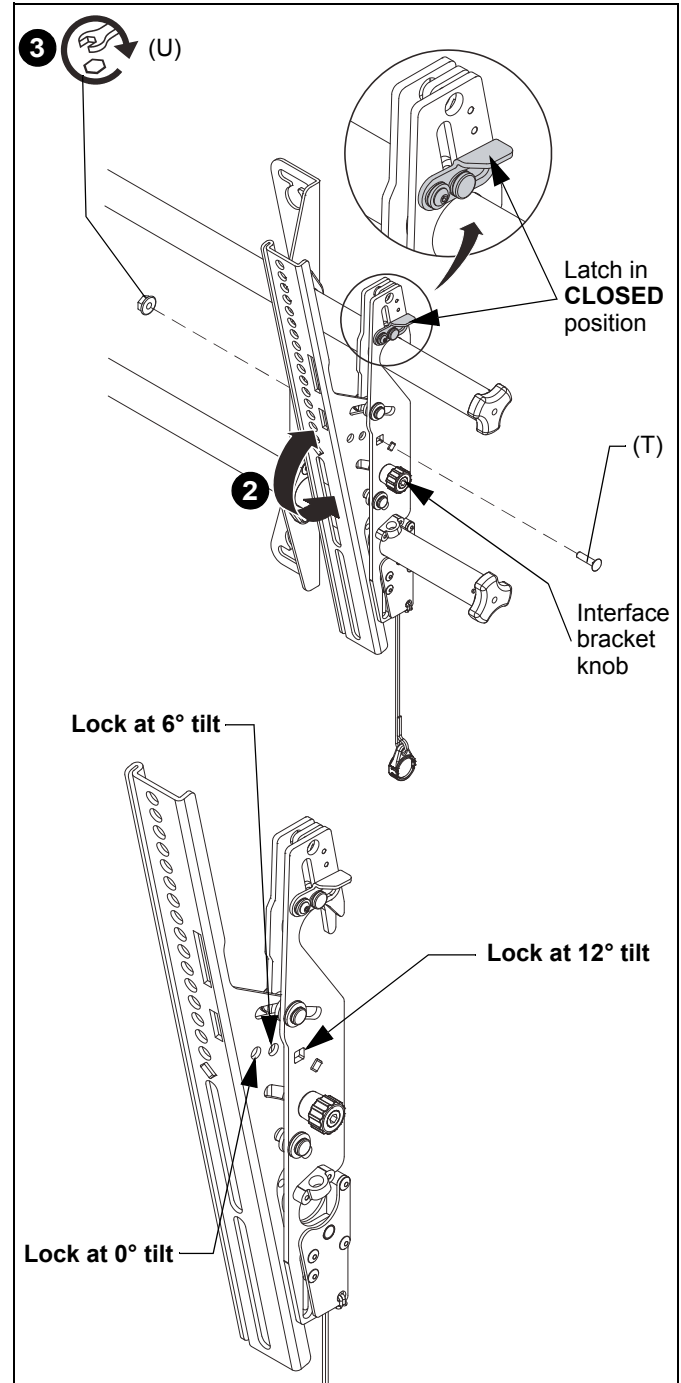

Figure 11
3. **(MTA1U / LTA1U only)** Move latch on top of interface brackets to CLOSED position. (See Figure 11)
2. Adjust tilt as required. (See Figure 11)
3. The tilt may be locked at 0° , 6° or 12° using one $1/4$ -20 x 1" round head carriage bolt (T) and one $1/4$ -20 hex nut (U) per interface bracket. (See Figure 11)